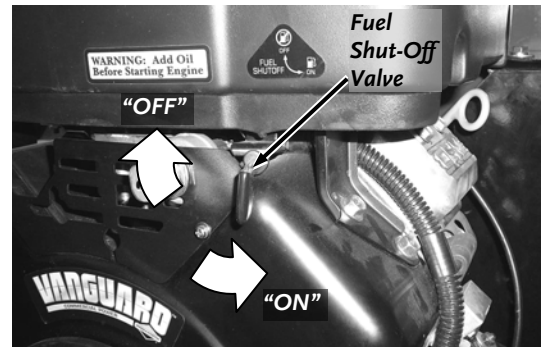

Figure 14
3. Ensure that the Fuel Shut-Off Valve is in the “ON” position (**Figure 14**).
**NOTE:** Check and re-tighten the Drive Belt, if necessary, after an initial break-in period of one (1) hour (see Chapter 5 “Maintaining the 30.00 Commercial DR Rapid-Feed Chipper”).
1. Ensure that the Fuel Shut-Off Valve is in the "ON" position (**Figure 14**).